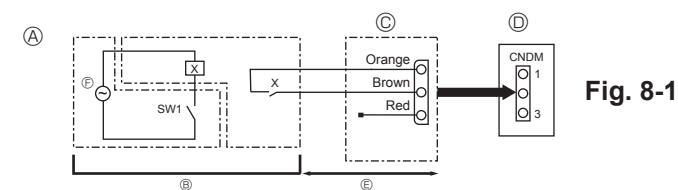

Fig. 8-1
③ External input adapter (PAC-SC36NA-E)
④ Outdoor unit control board
⑤ Max. 10 m
⑥ Power supply for relay
8.1. Low noise mode (on-site modification) (Fig. 8-1)